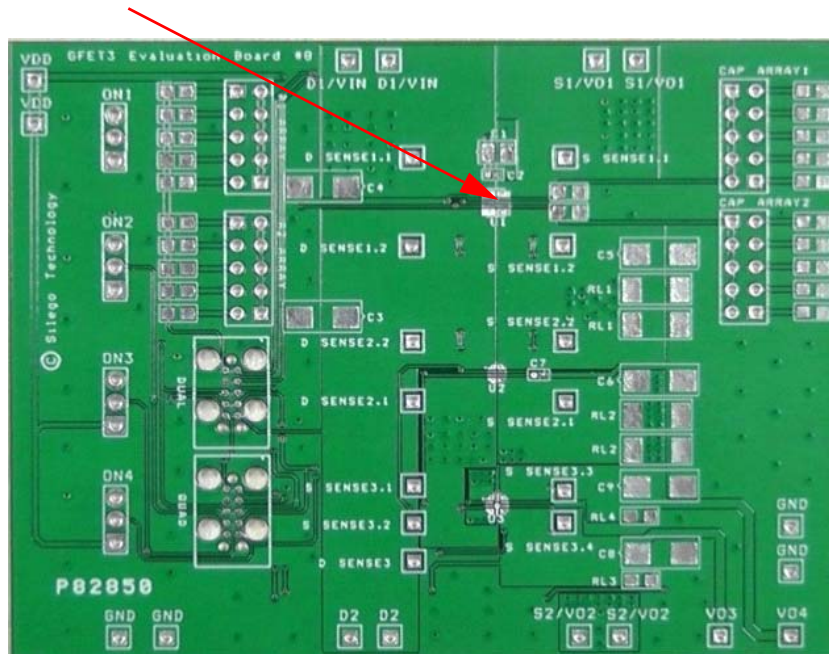

Figure 1. SLG59M1655V Evaluation Board.
2. Since the D and S pins dissipate most of the heat generated during high-load current operation, it is highly recommended to make power traces as short, direct, and wide as possible. A good practice is to make power traces with an absolute minimum widths of 15 mils (0.381 mm) per Ampere. A representative layout, shown in Figure 1, illustrates proper techniques for heat to transfer as efficiently as possible out of the device;
A GFET3 Evaluation Board for SLG59M1655V is designed according to the statements above and is illustrated on Figure 1. Please note that evaluation board has D_Sense and S_Sense pads. They cannot carry high currents and dedicated only for RDS_{ON} evaluation.